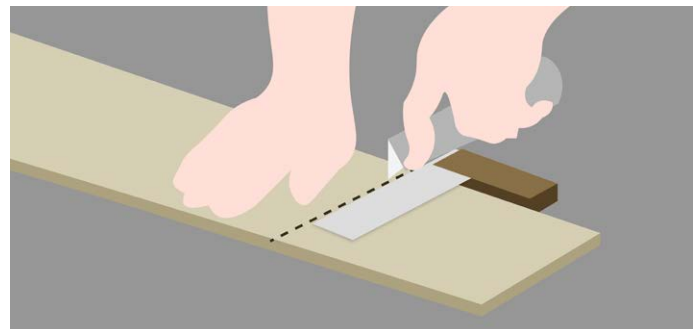
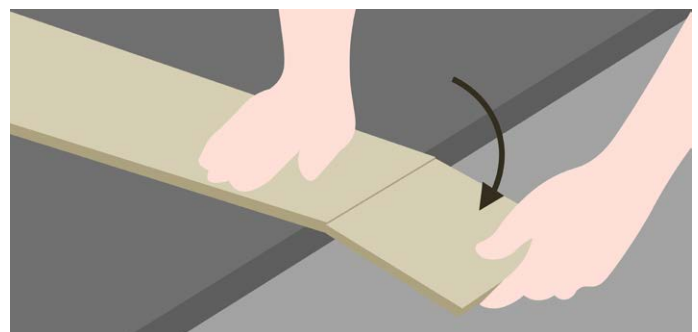

Fig. 3
Fig. 4
4. The last tile in the row will most likely have to be cut to size. To cut: measure the remaining gap between the last full tile and the wall. Mark the same length on a tile and draw a straight line. Cut along the line with a utility knife (or LVT cutting tool), with the tile pattern side up (fig. 3). Now break the tile with your hands (fig. 4). Make sure to leave a 5 mm expansion gap between the last board and the wall.